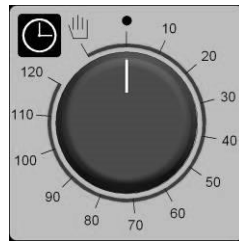

Fig. 1
**Programming cooking time** - To run the oven, turn the programmer knob (Fig. 1) in line with symbol  (continuous operation) or in line with the selected cooking time (up to 120 minutes). In the second case, end of cooking is signalled by the oven switching OFF automatically.